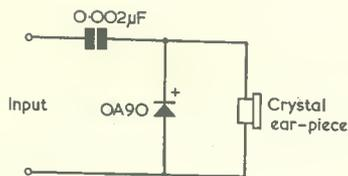

Fig. 2. The demodulator probe used for circuit testing during assembly
(5) R.F./Mixer Section. Connect plain wire links between 2h and 2i, 7i and 7k, 11o and 11p, 13n and 13o. Solder in place C₁, C₂, R₂, C₃, R₁, R₄, TR₁, R₃, C₄. Solder a 34in antenna wire to hole 1p. Connect sleeved links between 1a and 5p, 7n and 8j. Solder TF₂ in place flush on the panel. Solder TF₁ in place, slightly above the surface of the panel. Wire a sleeved link between 14j and 13m, taking care to leave access to hole 14b. *Temporarily* connect a positive battery lead to 8p and a negative lead to 9h; connect a 9 volt battery and check that, with the crystal in place, current is of the order of 2 to 3mA. Make up the demodulation probe as shown in Fig. 2, and *temporarily* connect this between 15i and 12m. Retract the antenna of the SCT/T1 transmitter and place close to the receiver antenna; check that a tone modulation signal is heard in the crystal earpiece when the transmitter is operated. Adjust the cores of L₁ and L₂ for maximum signal. If this test is satisfactory, remove the temporary circuit connections.
(6) First I.F. Amplifier. Solder in place TR₃, R₉, R₈, R₁₀, R₁₁; wire sleeved links between 10k and 9n, 2b and 15n, 17l and 17p, 14l and 23o. Solder in place TF₃, R₁₇ and C₈. Connect a permanent battery positive lead (red) to 21p. This lead is used for the positive battery connection on all subsequent tests and in final use. *Temporarily* connect battery negative to 9h, connect the battery, and check that current is approximately 3.4mA. Connect the demodulator probe *temporarily* between 18b and 15i and check that a tone is heard when the transmitter is operated. If satisfactory, remove the temporary connections.
(7) Second I.F. Amplifier. Connect a plain wire
T_1 is a transformer with a large primary winding which offers a very large inductance with the small current passing through it. It has a step-down ratio of 30:1 so that its secondary matches well to the input of TR_1 , an n.p.n. transistor acting as a power amplifier. VR_3 , a preset control, is adjusted once and for all so that TR_1 passes an emitter current of 25mA. Half the primary of a push-pull output transformer acts as the collector load for TR_1 . A negative feedback loop from output to input of V_1 is provided by R_2 , C_1 , VR_1 , R_3 and C_3 . Because of the resistance in the circuit this loop is effective at audio frequencies only; and since C_3 is comparatively small, it is more effective at the higher audio frequencies. VR_1 acts as a tone control on radio, giving treble cut as the slider is moved towards R_3 , (i.e. clockwise with the wiring layout shown in Fig. 2.) It should be